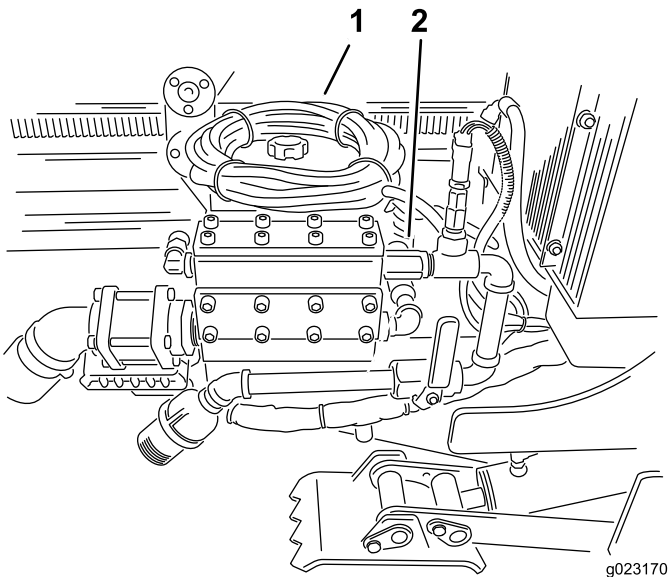

Figure 3
3. Install the air-hammer adapter assembly to the existing tee fitting (Figure 3).